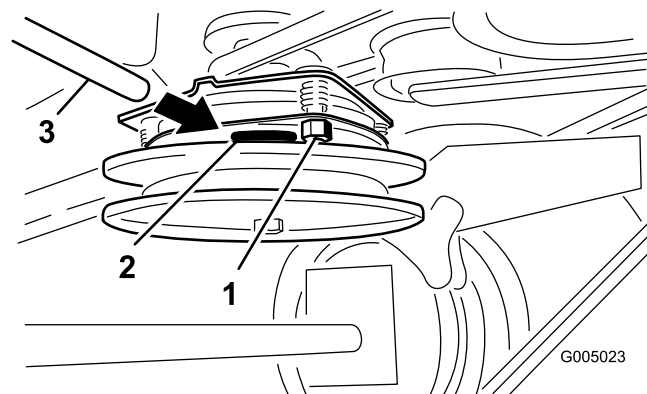

Figure 46
2. Tighten the lock nuts until there is slight binding on the feeler gauge but it can be moved easily within the air gap (Figure 46).